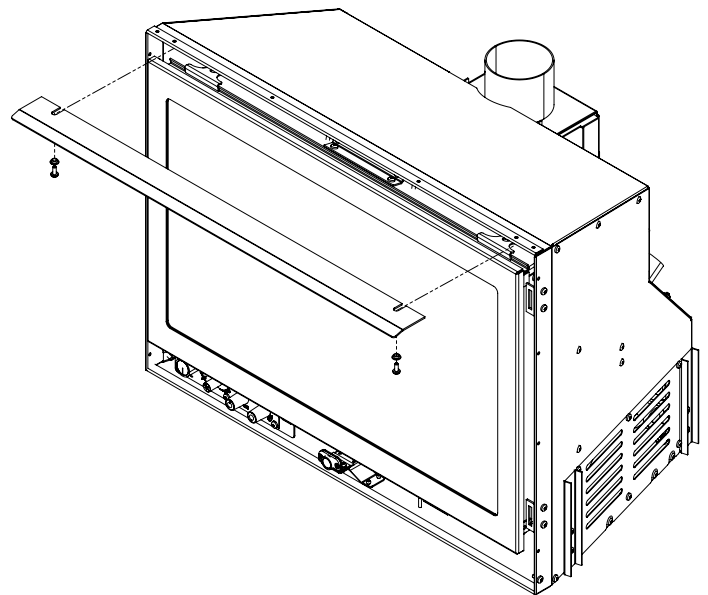

Figure 43: Top Air Deflector Install.
1. Install the included two (2) #8-32 x .375" screws and two (2) shoulder bushings loosely into the cabinet top.
2. Slide the air deflector onto the shoulder bushings (see Figure 43).
1. Install the mounting bushings and screws for the trimable panel onto the E20 unit using a T-20 Torx screwdriver. See Figures 43 and 45 for the installation locations.